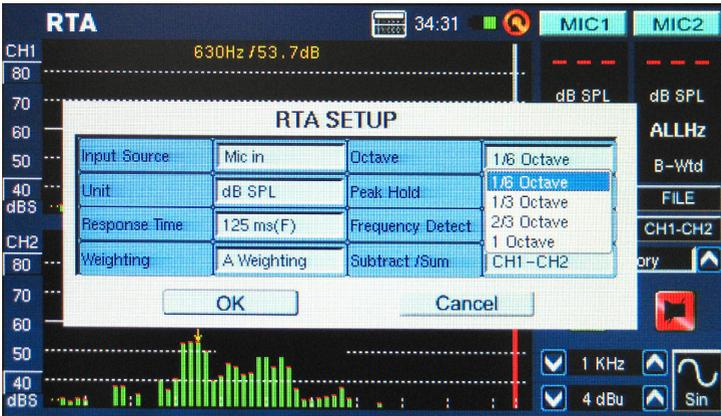

figure 19
- Select the 'octave' settings you wish to use for your calculations (figure 19). Users can select from 1 octave resolution (for a total of 10 bands on the RTA), 2/3 octave resolution (for a total of 15 bands), 1/3 octave resolution (for a total of 31 bands), or 1/6 octave resolution (for a total of 61 bands).